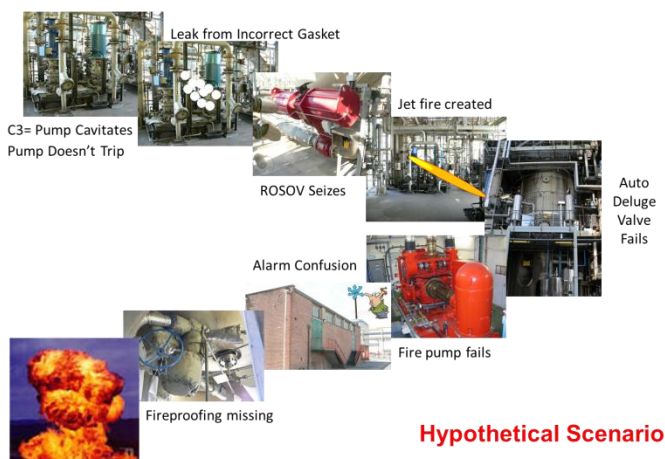

Figure1: Hypothetical Reactor BLEVE Scenario
- (a) BLEVE of Reactor Vessel (see Figure 1)